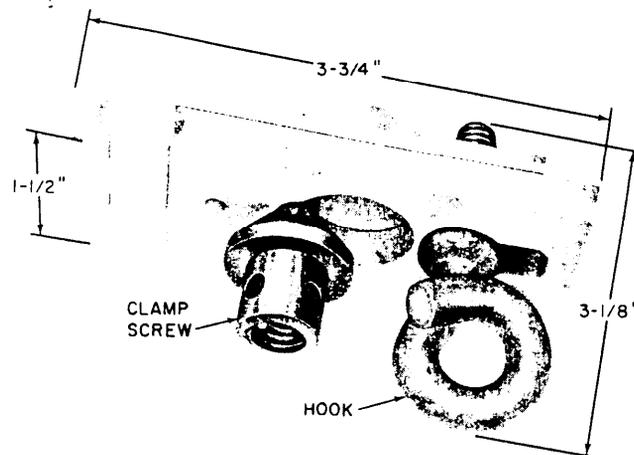

Fig. 24-F Span Clamp
- 6.06 The F span clamp, illustrated in Fig. 24, is an aluminum clamp that is shaped at one end to grip the suspension strand. A galvanized steel hook for attaching and supporting drop wire clamps is located at the other end. The lower side of the clamp is moved by the beveled portion of the clamp screw when rotated in a clockwise direction. The forward motion of the lower clamp side forces the strand against the curved upper clamp side locking the clamp securely on the strand. The clamp screw is turned by the B clamp wrench blocked into the handle of a standard tree pruner section.